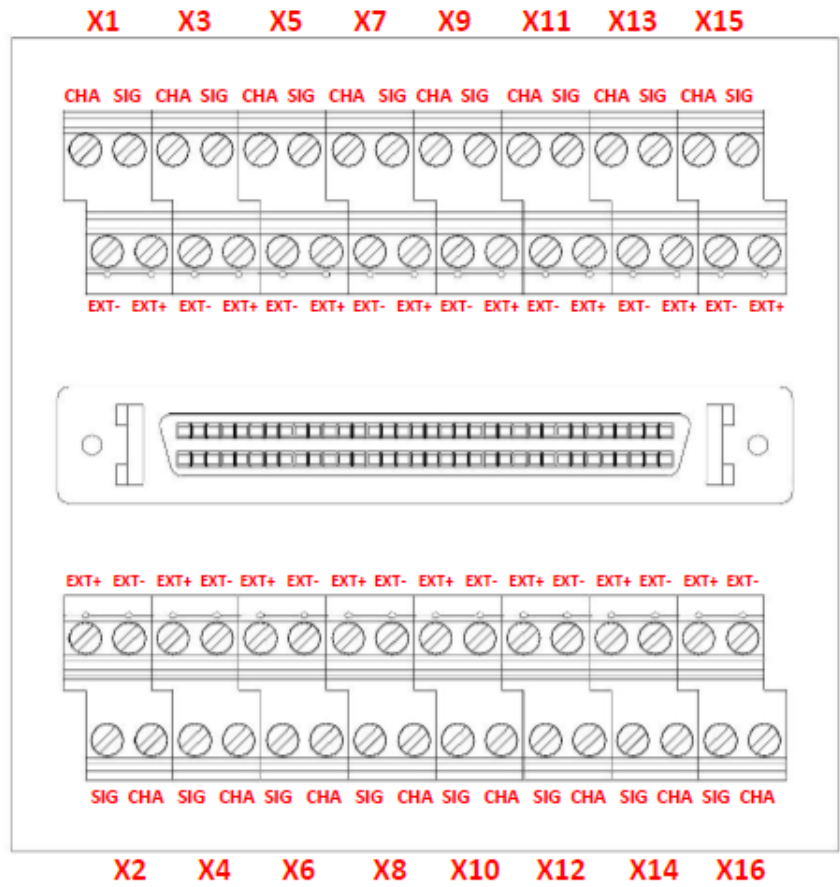

Fig. 5-93 A146, termination assignments for connection terminal Q.series XL CT A146 for measurement with a strain gage quarter bridge
Q.bloxx CT A146 is shown in Fig. 5-93, page 111 and the assignments for connecting Cable A146 with free ends can be found in Fig. 5-91, page 109. For measurement with quarter bridges, only U_{Exc+} , U_{Exc-} and U_{Sig+} are assigned.